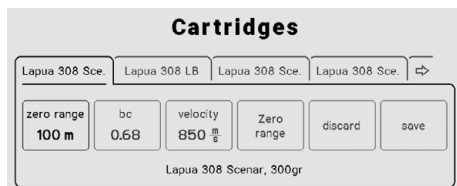

Fig. 5
5. To go to the menu for the configuration of the ammunition (Fig. 5): press the On/Off button (3/1) again briefly.